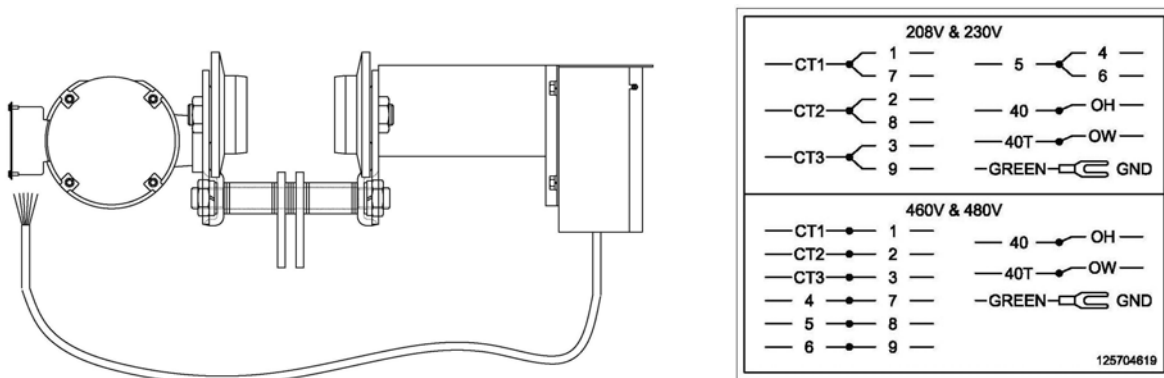

Figure 6
1. Connect wiring between the Motorized Trolley Control Box and the Motorized Trolley Motor. Connect the wires as shown in Figure 6.